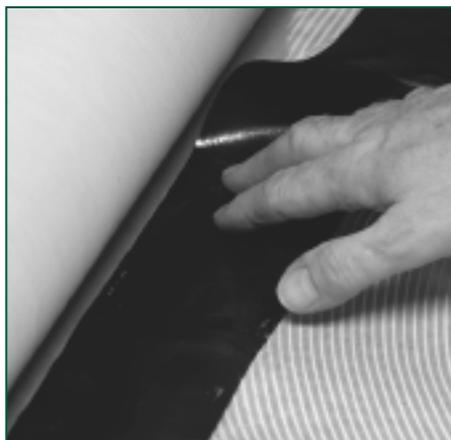

Figure 5 Polyethylene strip
E. Place a length of 100mm wide polyethylene strip onto the edge of the adhesive adjacent to the fold in the vinyl sheet (Figure 5).